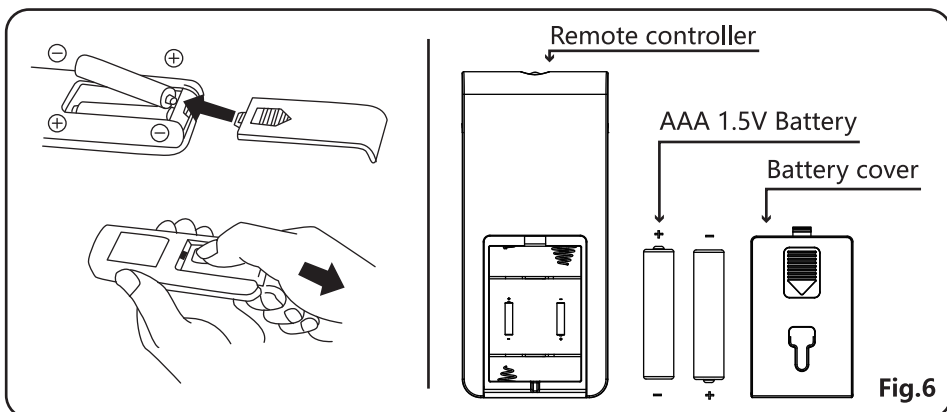

Fig.6
2. Insert the batteries and make sure that they are placed as shown in Fig. 6.